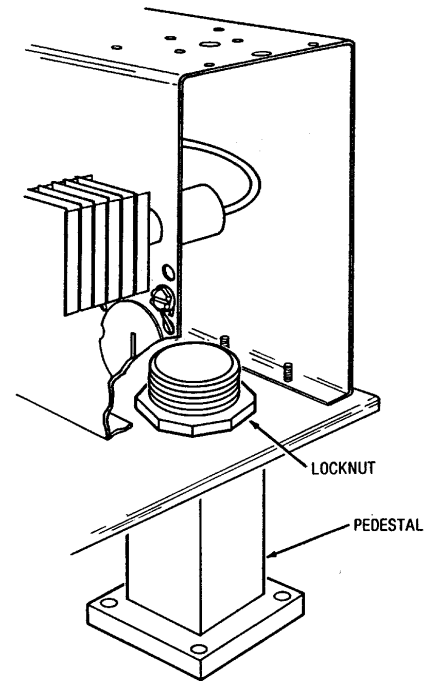

**Figure 7**
2. Remove the 1-23/32" knockout from the bottom of the heater at each end and at other location where pedestals are to be installed. (Figure 7.)